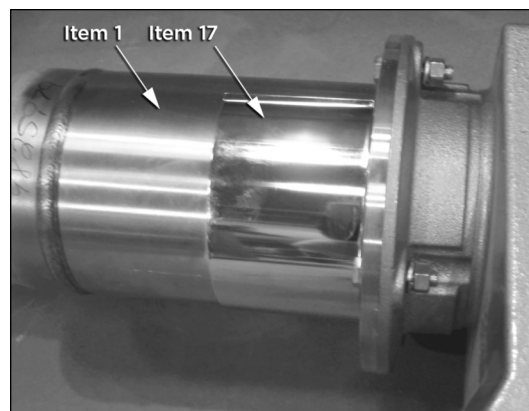

Figure 16
14. Place the inspection cover (item 17) over the housing inspection port and snap into place to complete the installation. See Figure 16.